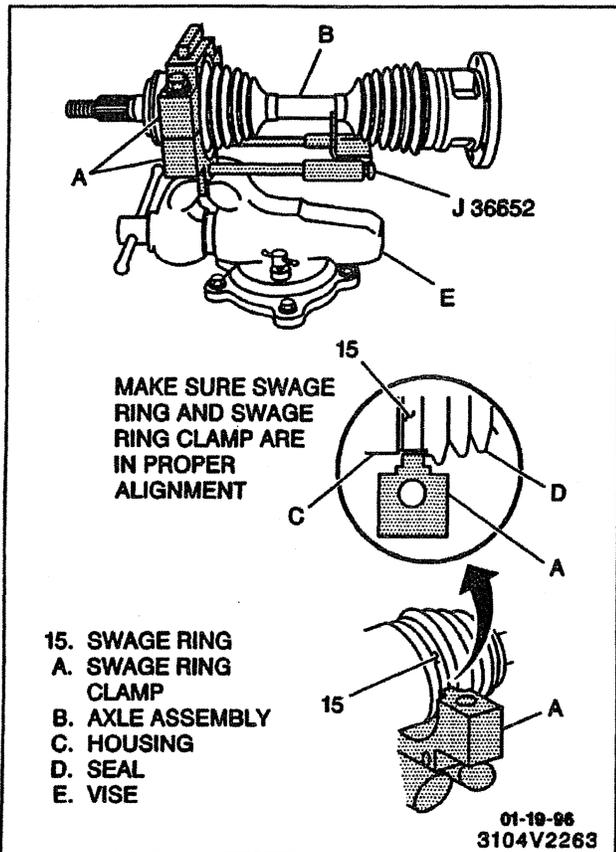

Figure 22—Installing Swage Ring
- C. Slide large diameter of the seal (12) with the large swage ring (9) in place over the outside of the C/V joint race (18) and locate the seal lip in the housing groove (Figure 22).
- The seal (12) must not be dimpled, stretched or out of shape in any way. If the seal is not shaped correctly, carefully insert a thin flat blunt tool without no sharp edges between the large seal opening and the outer race (18) at maximum clearance of oval ring (9) to release the air. Shape the seal by hand and remove the tool.
- D. Refer to the chart in Figure 22 and select the correct size swage clamp tool J 36652.
• Make sure the seal (12), housing (18), and swage ring (9) all remain in alignment (Figure 22).
10. Return the swage ring (9) to position on seal (12).
- Refer to the chart in Figure 22 and select the proper size swage clamp tool J 36652.
- B. Place the top half of the proper size tool on the lower half of tool and check for proper alignment and dimension (Figures 22 and 30).
- Make sure that the seal, housing, and swage ring (15) all remain in alignment (Figure 22).